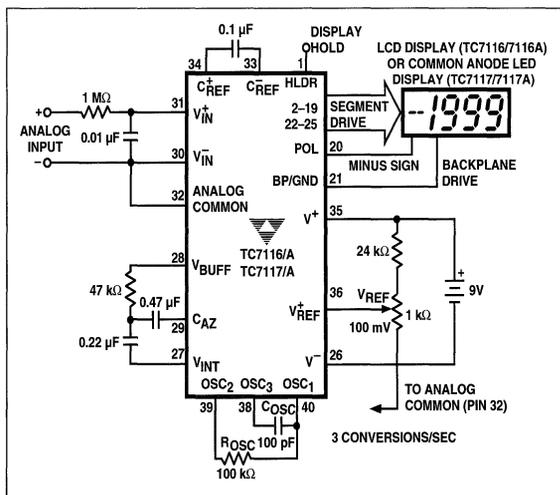

Figure 1 Typical TC7116/A/7/A Operating Circuit
3. Unless otherwise noted, specifications apply at $T_A = +25^\circ C$, $f_{CLOCK} = 48 \text{ kHz}$. TC7116/TC7116A and TC7117/TC7117A are tested in the circuit of Figure 1.